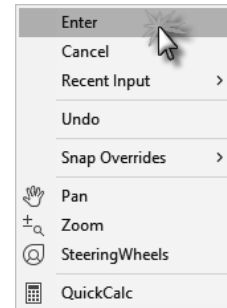

FIGURE 2-1.5
8. After clicking your second point (i.e., the endpoint), **right-click** anywhere on the screen and select **Enter** from the pop-up menu (Figure 2-1.5).